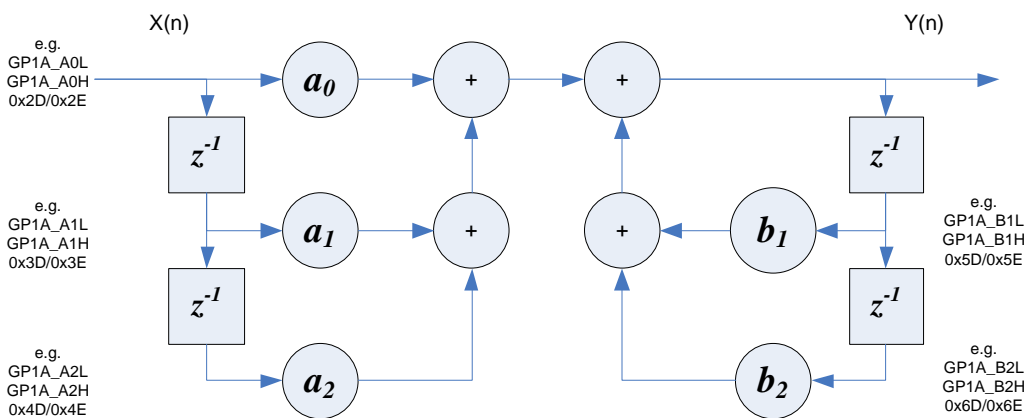

**Figure 15: Digital signal processing engine (simplified block diagram)**
A digital high pass filter for each DAC channel is implemented (configurable by control DAC\_HPF\_F0 (address 0x14, Table 56) that can be enabled via control DAC\_HPF\_EN (address 0x14, Table 56, see blocks 'DAC HP' in Figure 15). After Reset, the high pass filters for both channels are enabled by default.
The digital signal processing engine includes a configurable audio processor that offers flexible routing and extensive audio enhancement and effects. Linear phase FIR filters perform the interpolation and decimation for the required sigma-delta sample rates. Configurable high-pass filtering (optionally enabled) removes any signal DC offset (see blocks 'ADC HP' and 'DAC HP' in Figure 15) and offers 5-band equalisation during recording and sound playback.
Alternatively it can provide dedicated voice band filtering at samples rates  $\leq 16$  kHz (see blocks 'ADC IIR' and 'DAC IIR' in Figure 15).
An additional general purpose (GP) filter engine offers up to eight second-order biquad filter stages with configurable 16-bit coefficients, and supports flexible digital audio routing and mixing arrangements. Figure 15 shows some possible routings (a subset of the available settings) for filter blocks GP1A to GP2D with the related control registers. Typical use cases with example configurations are explained in the section 8.3.
To allow user-specific sound control, the recording path includes a programmable 5-band equaliser (combined in the ADC IIR blocks in Figure 15). This is enabled using control ADC\_EQ\_EN (address 0x13, Table 55).